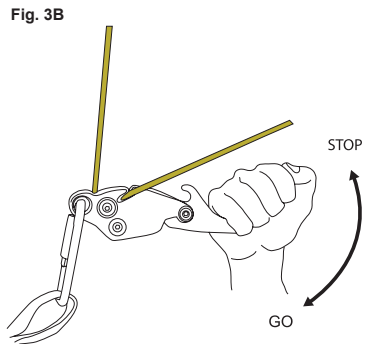
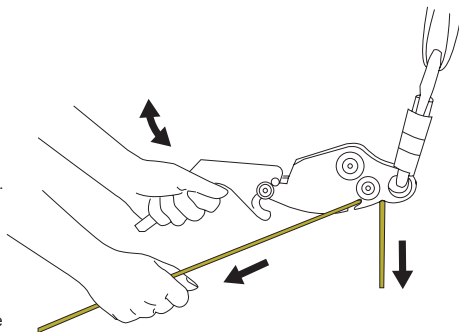

Fig. 3B
Fig. 7
7. The speed of the descent is adjusted with one hand on the handle and the other hand holding the line below the device. Start with the line at an angle down of the slot as shown in fig. 3B. When moving the handle down, the speed increases. When moving the handle upwards or releasing the handle, the device will stop. Increase or decrease friction by moving the line into the narrow part of the slot or away. It is important to always keep one hand on the line to control the descent.
8. The speed of the descent is regulated with one hand on the handle and the other hand holding the line below the device. Start with the line at an angle out of the slot. With the descender upside down, the descent starts by pulling the handle upwards fig. 7, and stops when moving the handle downwards or by releasing it. Increase or decrease friction by moving the line into the narrow part of the slot or away as shown in fig. 3B. It is important to always keep one hand on the line below the device to have better control of the descent.